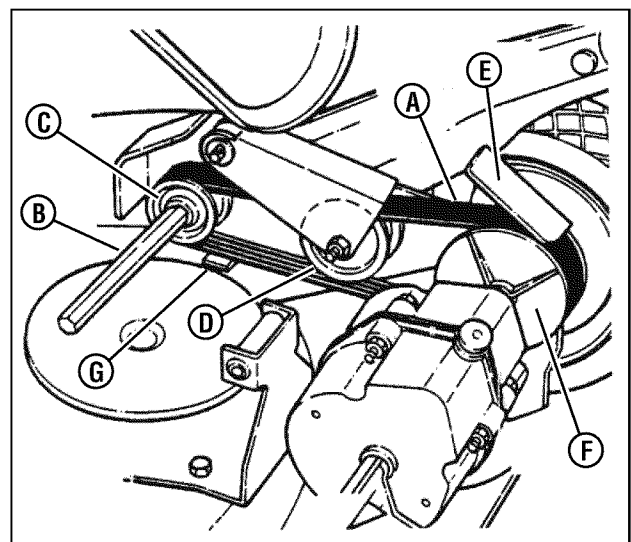

Figure 36: Poly-v belt routing
3. Place the new Poly-V Belt (**A**, **Figure 36**) over the end of the hex shaft (**B**) and onto the drive pulley (**C**).